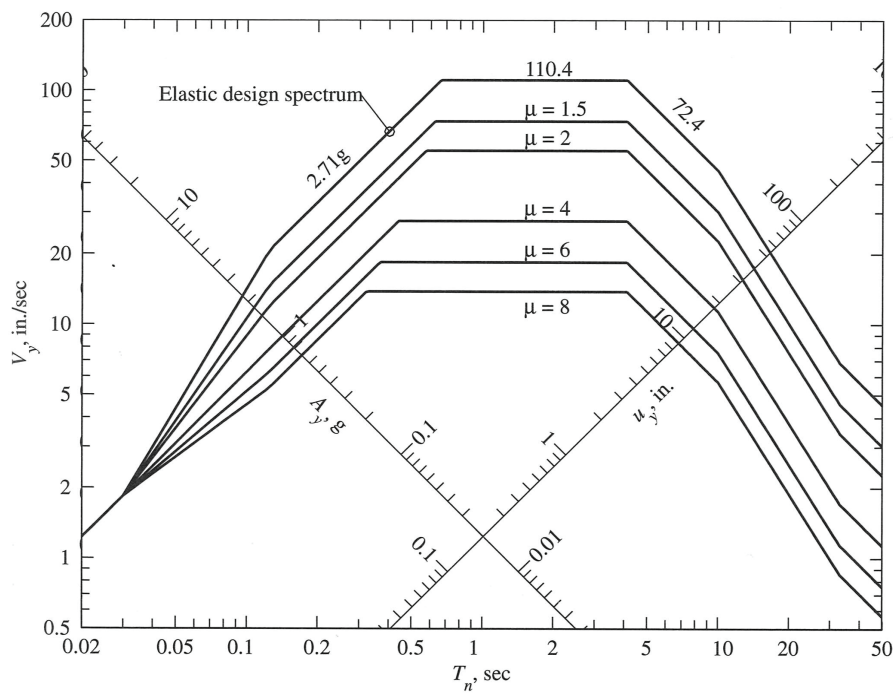

Fig. 5
- (iii) Using the inelastic design spectrum of Fig. 5, estimate the required ductility factor if yield of the braces governs. [25%]